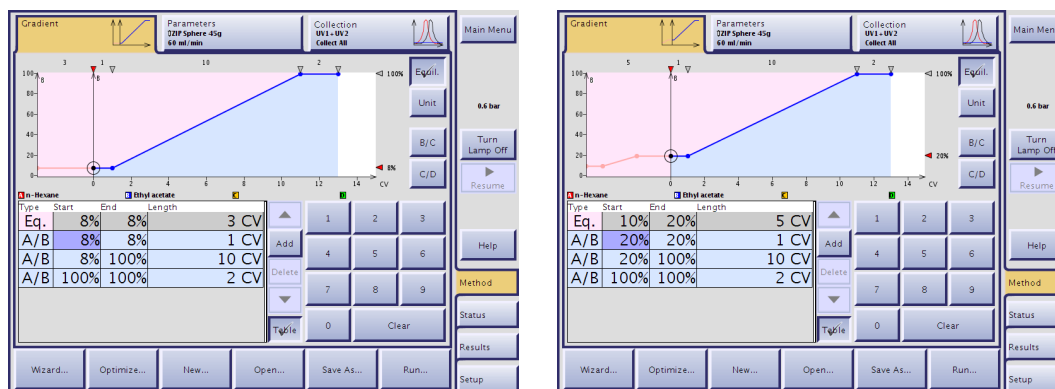

Figure 4-3. Linear or Gradient Equilibration Depending on the Solvent Strength (System With Four Solvent Inlets Shown)
- When the percentage of the strongest solvent is less or equal to 10% in the initial solvent mix, an isocratic equilibration is used. When the percentage is above 10%, a fixed gradient equilibration is used. See Figure 4-3.